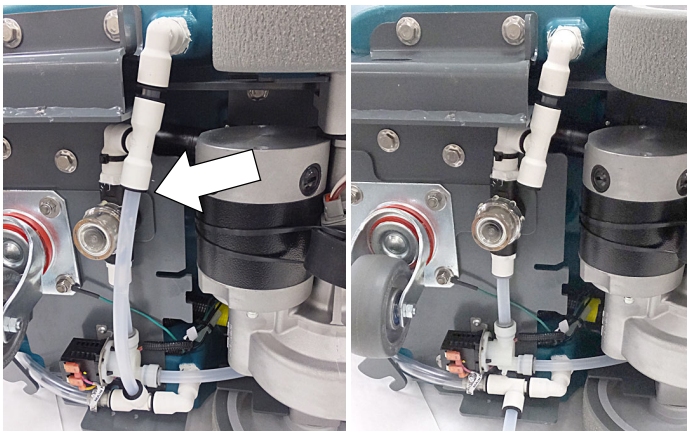

Fig. 20
- Disconnect the solution hose from T-fitting as shown. Press the black collar on fitting inward and pull the hose outward to remove hose from fitting (Figure 20).